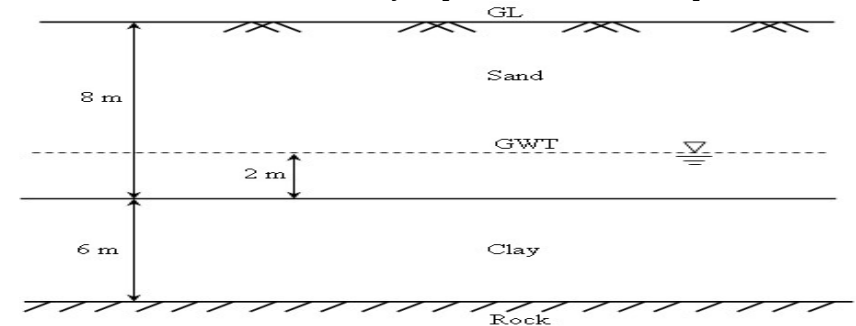

Figure 3
- (b) At a site (Figure 3) the subsoil consists of a 8 m thick layer of dry sand ($G = 2.65$, $e = 0.85$, $D_{10} = 0.14$ mm) which is underlain by a 6 m thick clay layer ($G = 2.75$, $w = 22\%$) below which there exists a thick layer of rock. The water table is located at a depth of 6 m below the ground level. Neglecting the effect of porosity, determine effective pressures at the ground level, at ground water table level, at the level of capillary rise and at the bottom of sand layer [Assume $C = 0.5$ cm²].